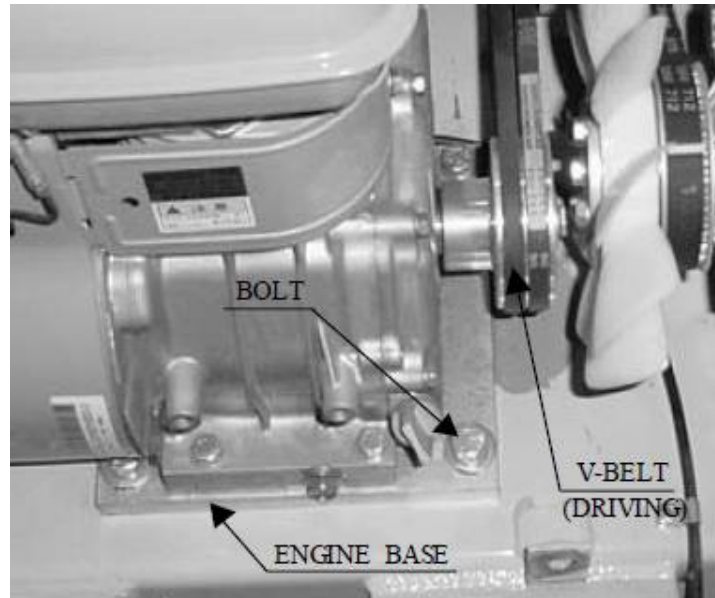

Figure 14-4
1. Loosen the four (4) bolts that secure the engine base. Refer to Figure 14-4.